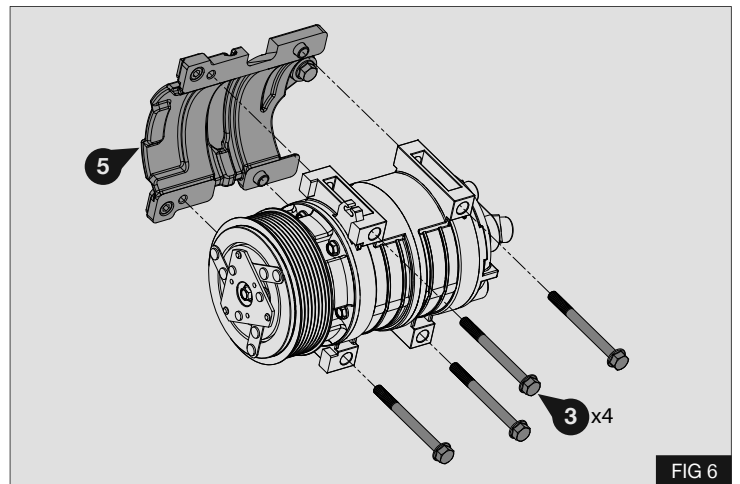

FIG 6
2. Fit compressor to bracket using 4 x M8 x 90 flange bolts (3)
- Fig 6